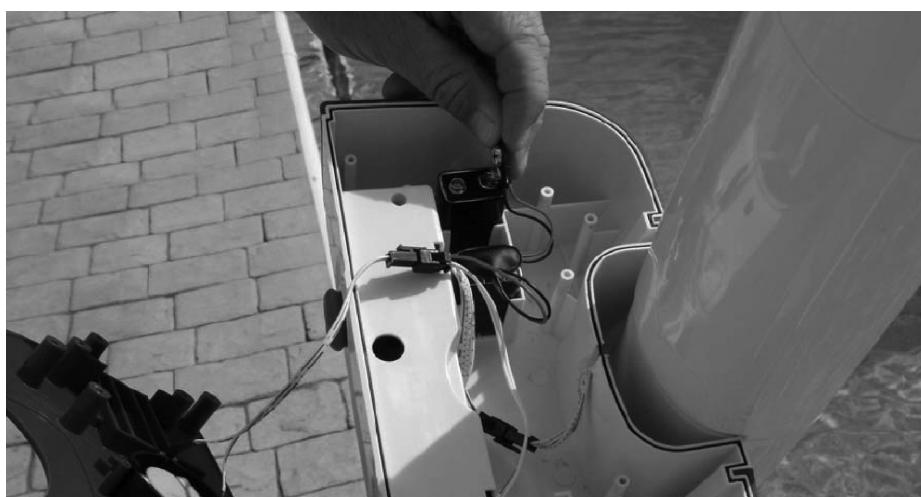

Figure 6
5. Turn the main alarm unit so that the opening of the sensor tube is pointing up. Remove ALL 11 screws fastening the water tight cover. Carefully open the cover, lifting it on the side opposite the sensor tube (see Figure 5). Make sure you do not lose any screws. When batteries are installed, a very loud alarm will sound! Be ready for it and do not drop the equipment. Insert two NEW 9V long-life alkaline batteries (not included) into the battery brackets (see Figure 6). Attach the connectors to the batteries. To make the installation easier, place the magnetic key on the round white protruding surface on the front part of the alarm, marked KEY. Press the RED button at the same time. A single long tone signal denoting that the alarm is in the swimming mode will sound. A control light located between the key location and the button will flash red. The alarm is now on but the sound is turned off and can be handled for three minutes without the siren sounding.